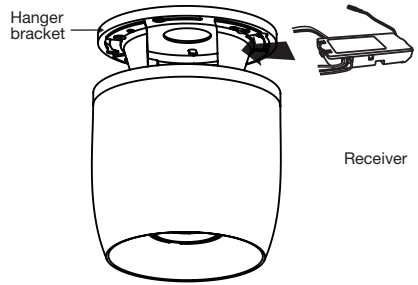

Figure 9
Step 1. (Fig. 9) Insert the receiver into the hanger bracket with the flat side of the receiver facing the ceiling.